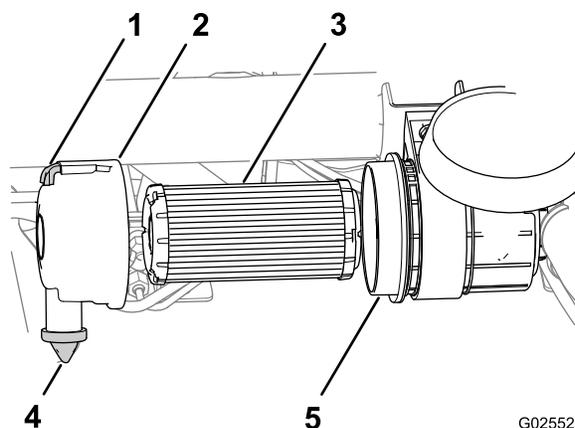

Figure 52
1. Pull the latch outward and rotate the air-filter cover counterclockwise (Figure 52).
3. Remove air filter from the housing (Figure 52).
4. Wipe clean the interior of the air-filter cover and housing (Figure 52).
5. Remove the rubber dust valve from the cover (Figure 52).